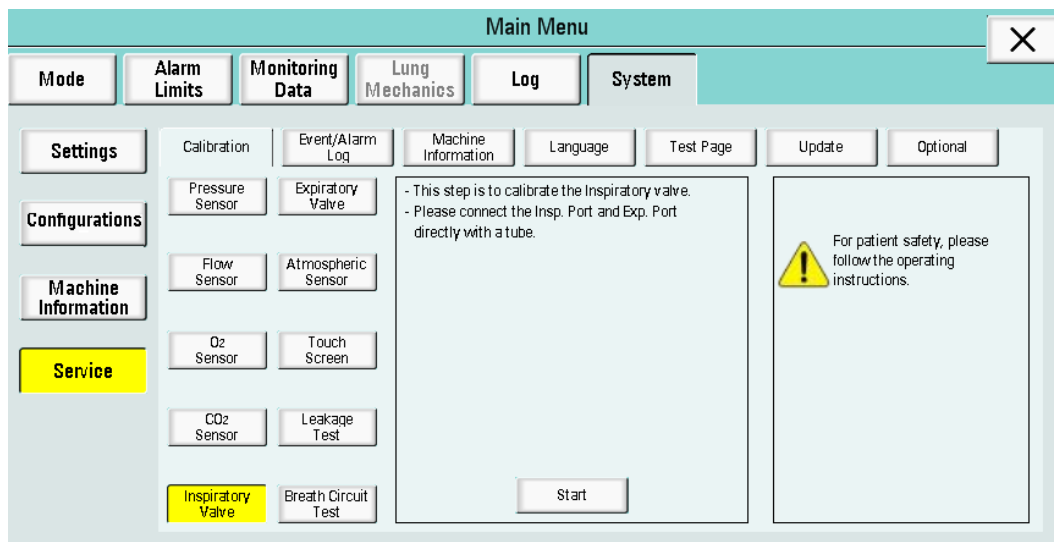

Figure 6-67
(5) Inspiratory Valve Calibration: Click “Inspiratory Valve” to enter the interface. A message displayed: “This step is to calibrate the inspiratory valve. Please connect the Insp. Port and Exp. Port directly with a tube”, as shown in Figure 6-67.